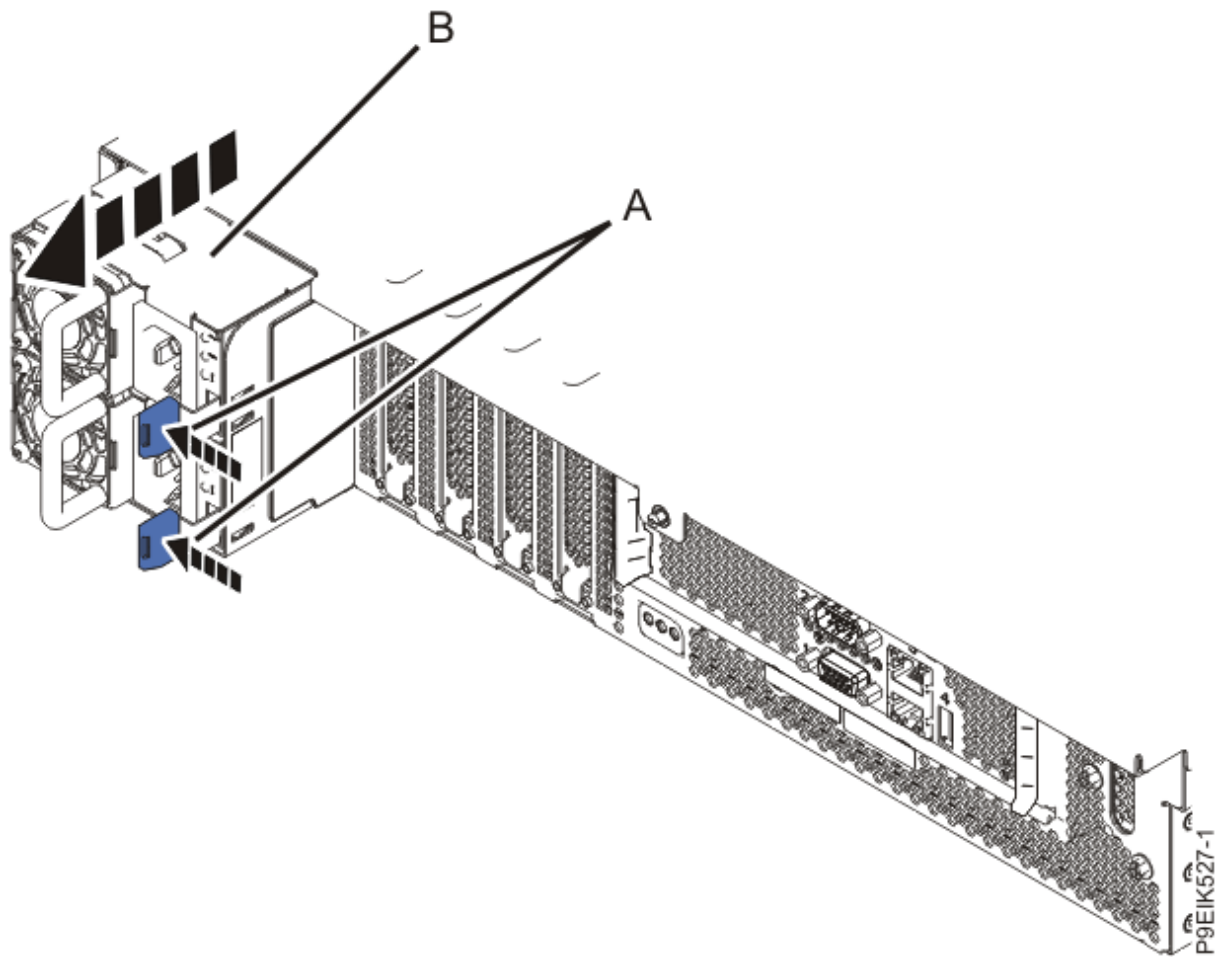

Figure 178. Removing the power supplies from the system
5. Remove the power supplies from the system as shown in Figure 178 on page 196.